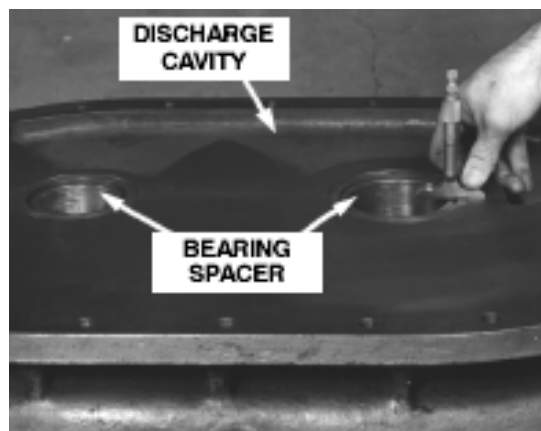

FIGURE 7-7 – DISCHARGE END BEARING CARRIER
7. Inspect bearing spacers for burrs on either end and polished area of O.D. Slip bearing spacer through the shaft seal with the polished end toward the bearing. Make sure the spacer is resting solidly against the bearing. With depth micrometer, measure the distance from the face of the carrier to the end of each of the bearing spacers, FIGURE 7-7, page 42.
10. Select the correct thickness of aluminum shims (27) to give the shim set established in Step 9. Check the thickness of the shims with an outside micrometer (FIGURE 7-10, page 43). Place the shims on the end of the housing, matching the pointed section of the shims with the contour of the housing. Remove bearing spacers from the discharge end bearing carrier, (FIGURE 7-7, page 42). Apply Loctite 620 to the I.D. of the bearing spacer. Place them over the shaft extensions grooved end toward rotor. Be sure the spacer fits solidly against the rotor. If measurements in Step 8 differ, make sure the bearing spacer is placed over its respective shaft extension to assure proper end clearance of each rotor.
11. Coat the I.D. of the shaft seals (22, 23) in the discharge end bearing carrier with oil. Remove bearings from the carrier. Tag bearings so they will be reassembled in the same bearing bore from which the measurement was made. Match the cavity of the carrier, (FIGURE 7-7, page 42), with the discharge opening of the housing (FIGURE 7-11), and lower the carrier, suspended plumb, in place on the housing. Be careful not to damage I.D. of the shaft seal by the shaft extension. Be sure there are no shaft shims in place during this operation as sharp edges of shims will damage the seals. Tighten the carrier to housing screws (56, 58) evenly to prevent damage to dowel pins.